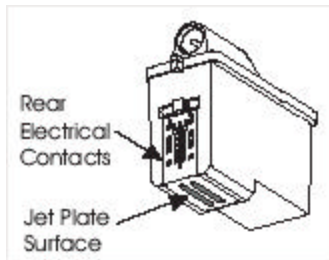

Figure 2.
5. Clean all ink residue by wiping the carriage bottom edges. Blot the jet plate surface. Thoroughly wipe the rear electrical contacts. (Figure 2.)